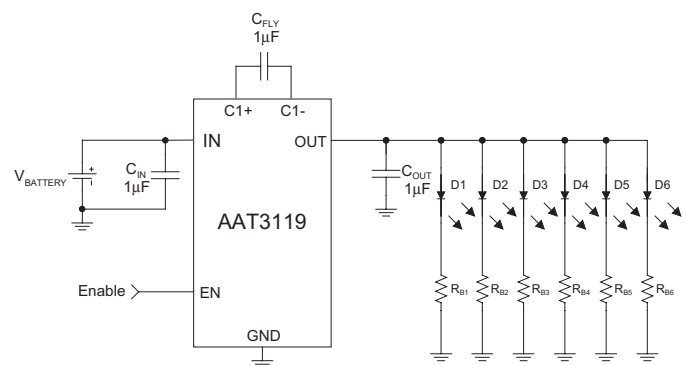

Figure 1: White LED Driver.
**LED Ballast Resistors:** To set the maximum brightness of white LEDs connected in parallel from a voltage source supply, a ballast resistor connected between each LED cathode and ground is required. Refer to the application schematic in Figure 1. The maximum brightness is determined by the forward current ( $I_F$ ) through the respective LED for a given forward voltage ( $V_F$ ). The typical forward voltage of a specific LED is usually stated in the typical characteristics of the given LED manufacturer's datasheet. The correct ballast resistor value can be determined by the following equation: